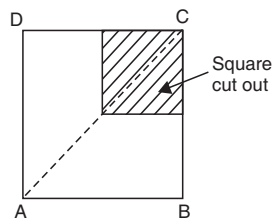

Fig. 4.47
5. A square sheet of metal has a square of one quarter of the original area cut from one corner as shown in Fig. 4.47. Calculate the position of the c.g. of the remaining portion of the sheet. [Ans. Distance of c.g. from AB or AD = 5/12 AB]